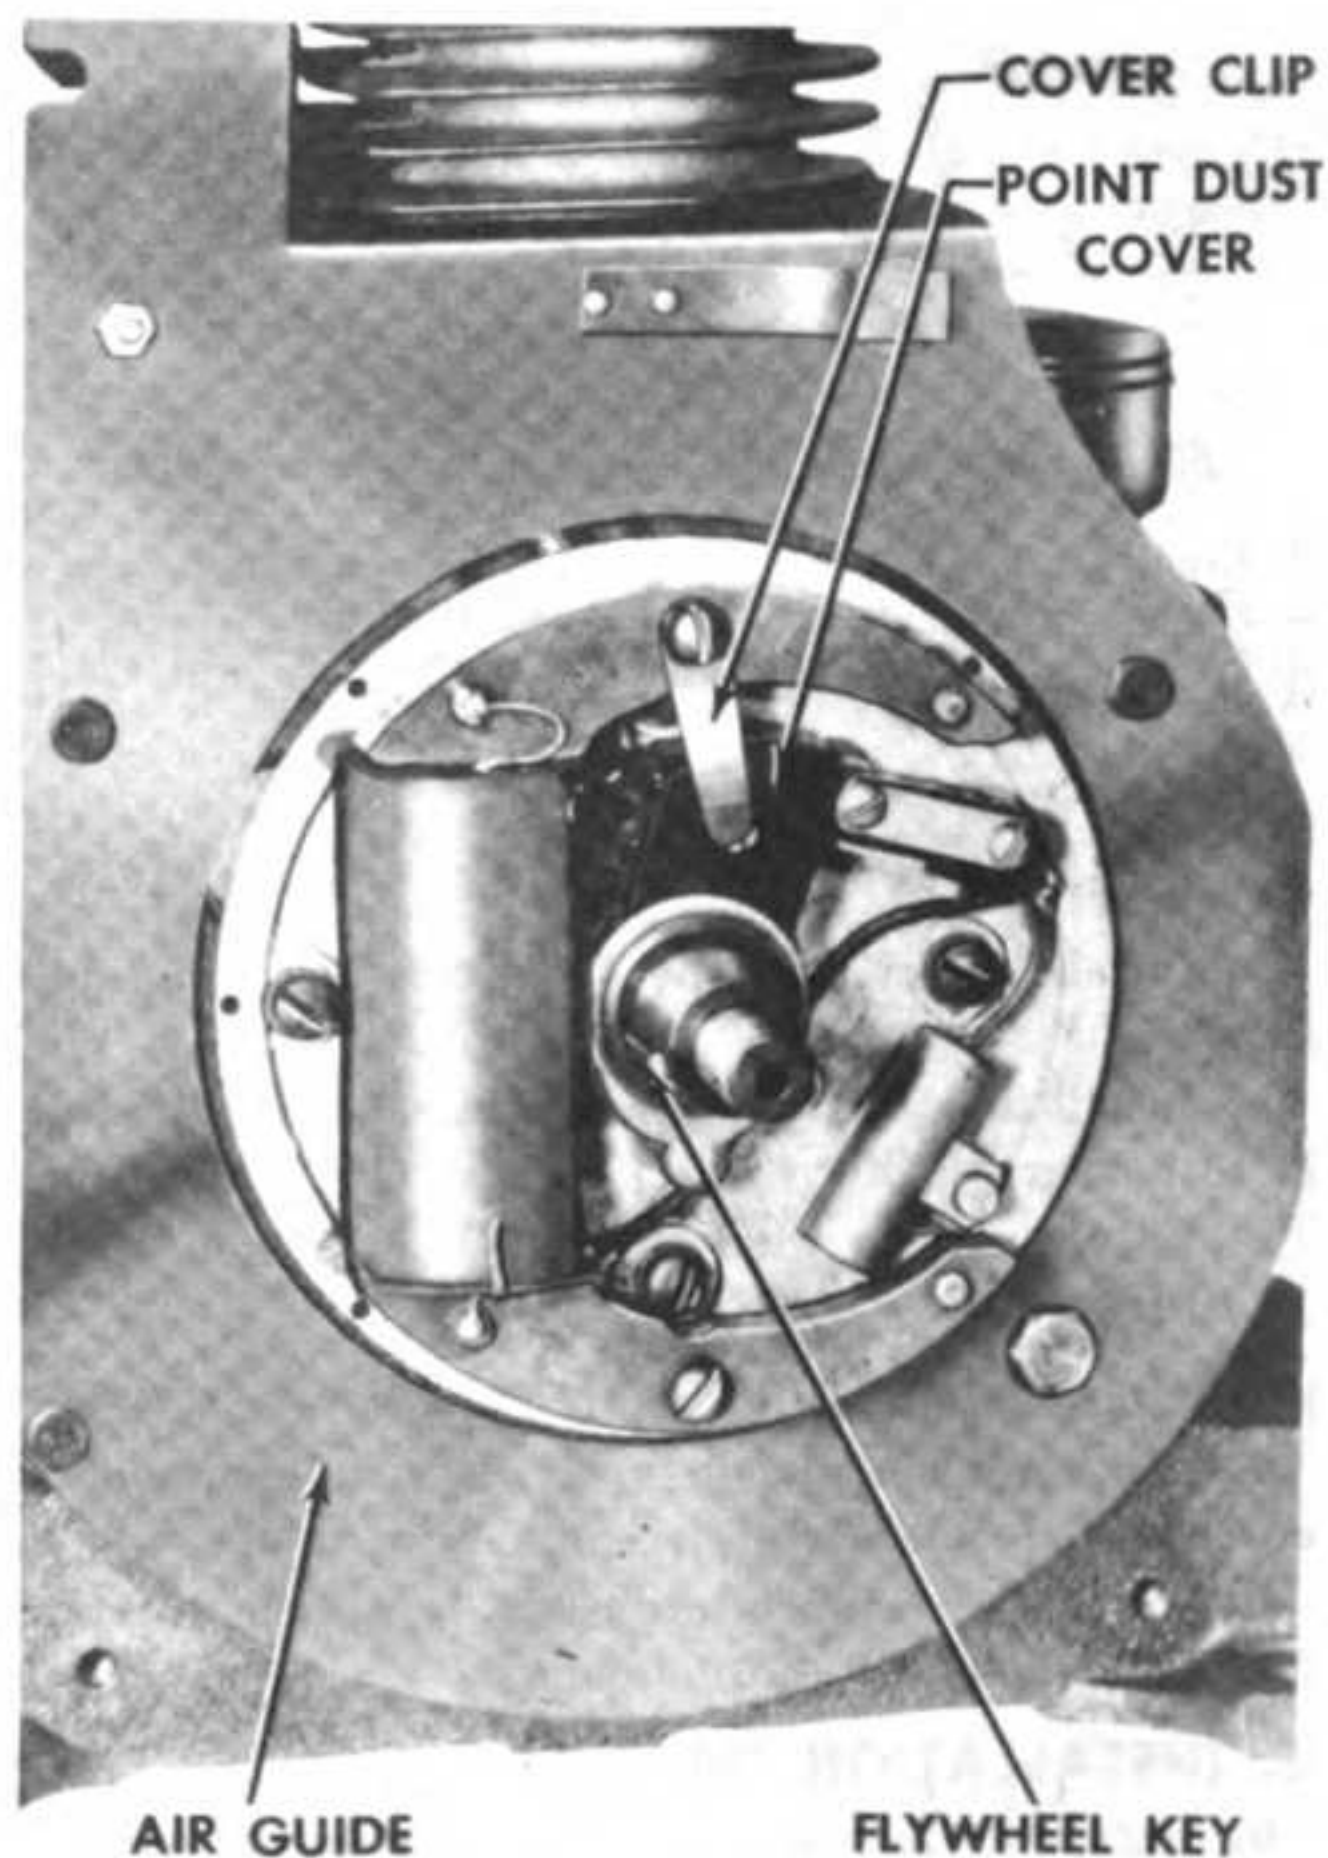

Figure 40—Flywheel Removed from Engine
(1) Remove the air guide, flywheel key, contact point dust cover, and four magneto mounting screws. (See figure 40.)
(2) Install the contact point dust cover and the air guide. (See figure 40.) NOTE: The magneto assembly is correctly timed with the engine when the flywheel is assembled to the tapered crankshaft with a key and secured with a right-hand threaded nut. Do not attempt to change the timing by relocating any parts or filing the crankshaft timing flat. Always use a soft key; if a steel key is used and the flywheel becomes loose it will damage the keyway in crankshaft.